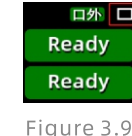

Figure 3.9
2. If the battery icon in the upper right corner flashes as shown in Figure 3.9, it is in a low battery state, so please charge it promptly.